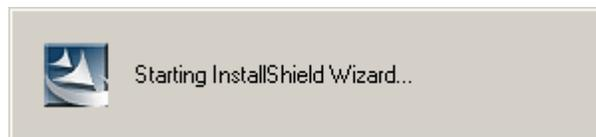

Figure 6-7: The InstallShield Wizard Starts
Step 3: The InstallShield Wizard starts (**Figure 6-7**).